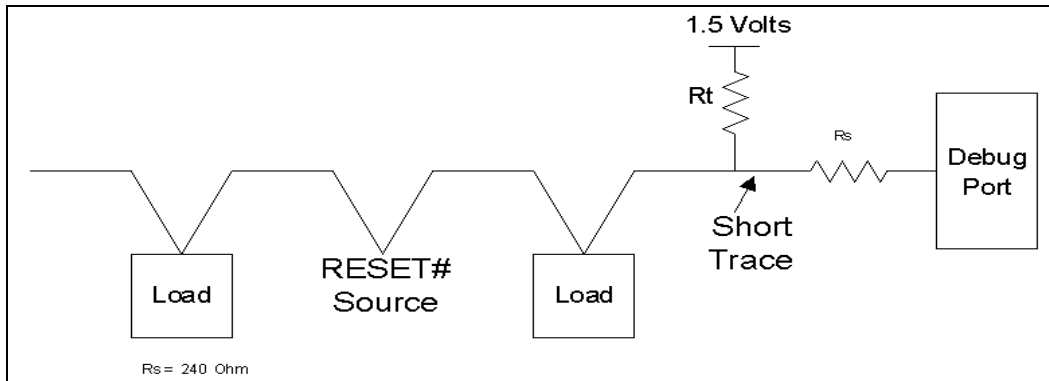

Figure 30A. AGTL+ Signal Termination
2. Termination should include series (~240 ohm) and AGTL+ termination (connected to 1.5V) resistors. Figure 30A.